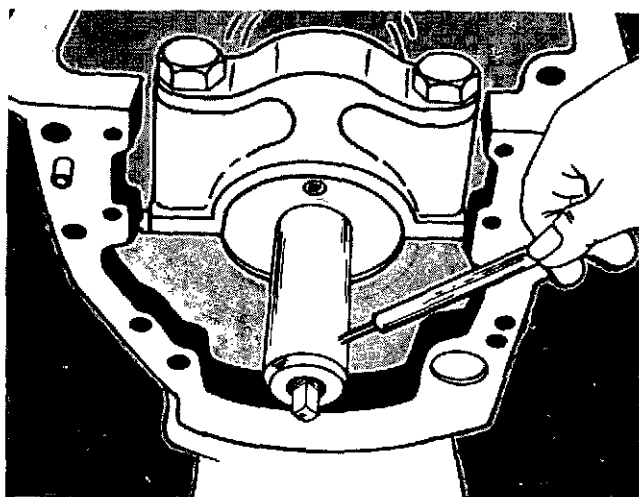

Fig. 1-42. Install The Drive Adapter Into The Boring Bar.
7. Install the Part No. ST-1177-31 Adapter into the other end of the boring bar. Make sure the 1/2 inch square drive at the adapter is pointing out from the bar. Tighten the setscrew in the bar, Fig. 1-42.